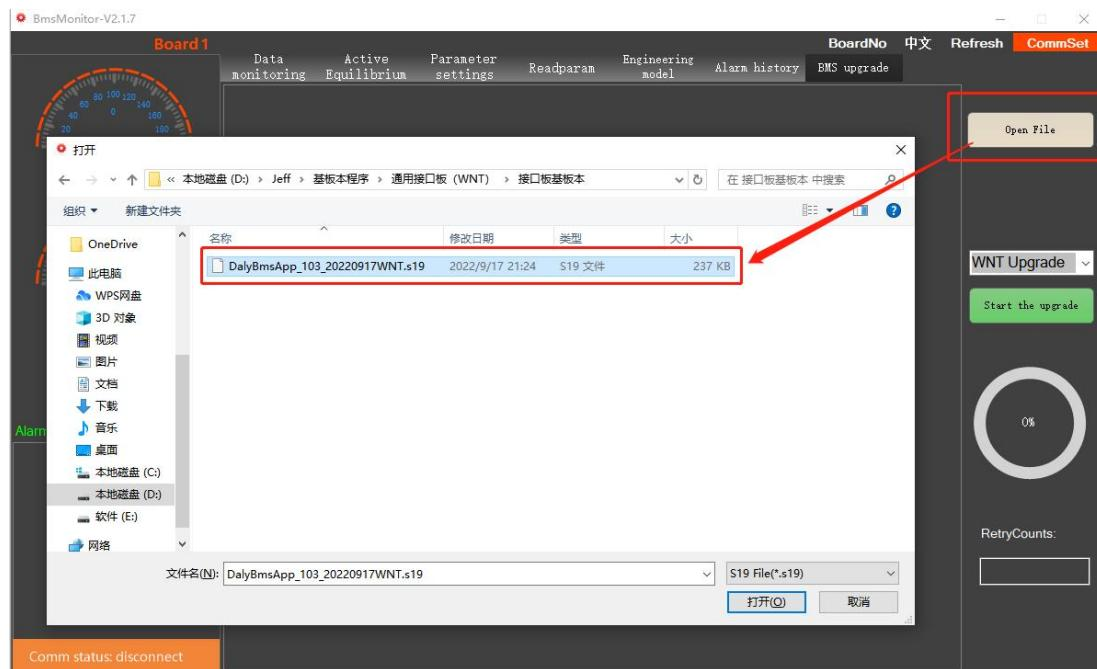

Figure 2-33 Open S19 file to upgrade
- (1) **The PC Master communicates with the Universal Interface Board (WNT).** Check the "Communication Status" to see if the connection is successful. At this time, don't care whether there is data in "Data Monitoring", because the APP may have been erased.
- (2) **Click "Open Upgrade Program"** to load the upgrade file into the host computer, or directly drag the upgrade file into the "Universal Interface Board (WNT) Upgrade" interface. **Figure 2-33.**